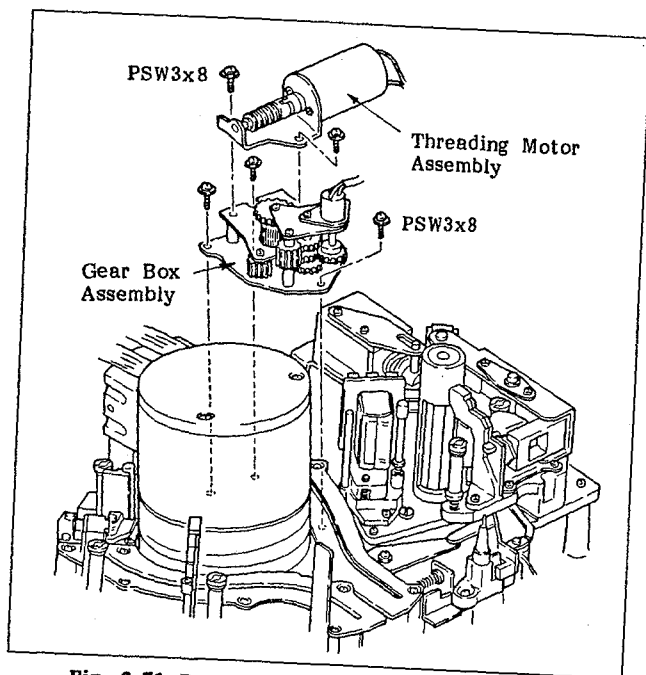

Fig. 6-71 Removing the Gear Box Assembly
1. Unscrew the two screws as shown in Figure 6-71, and then remove the threading motor assembly.